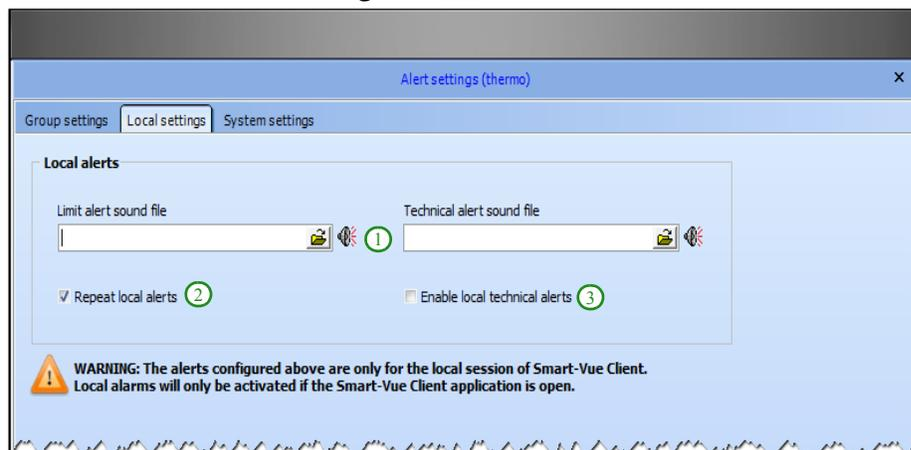

Figure 98. Local settings in the Alert management window
4. You may choose to play a sound file (.WAV) on the computer's speakers when a new limit is detected (enter the .WAV file name in the field to the left of ① in Figure 98) or when a new technical alarm is detected (enter the .WAV file name in the field to the right of ①).
5. If you select the checkbox **Repeat local alerts** ②, the list of alarms in the main Smart-Vue Client window (to the left of the dashboard) is scanned once every minute. The .WAV sound is played when the first alarm configured to play the sound is found in the list (could be either a limit alarm or a technical alarm).
6. You may use the **Enable local technical alerts** option to enable or disable local technical alerts ③. When this option is disabled, only limit alarms will trigger local alerts.